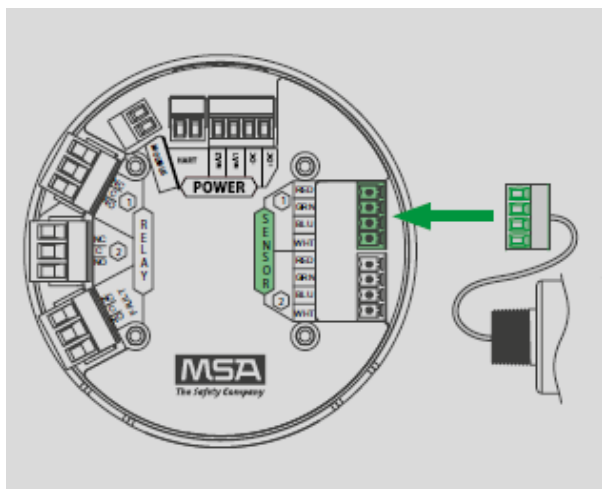

Figure 22 Connecting a Sensor to the Board
8. Connect an XCell or XIR PLUS sensor using the green connector. Sensor wires are already connected as shown on the cover plate (Figure 22):